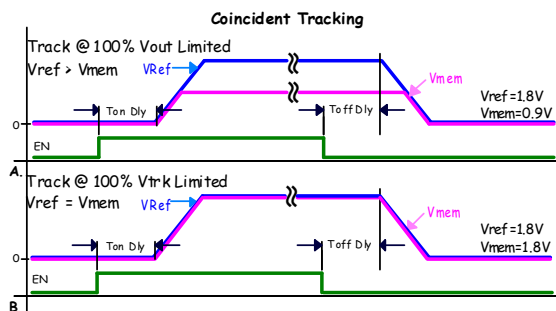

FIGURE 17. COINCIDENT TRACKING
The ZL9101M offers two modes of tracking: coincident and ratiometric. Figures 17 and 18 illustrate the output voltage waveform for the two tracking modes.
1. Track at 100%  $V_{OUT}$  limited. Member rail tracks the reference rail and stops when the member reaches its target voltage, Figure 17 \(A\).
2. Track at 100% VTRK limited. Member rail tracks the reference at the instantaneous voltage value applied to the VTRK pin, Figure 17 \(B\).